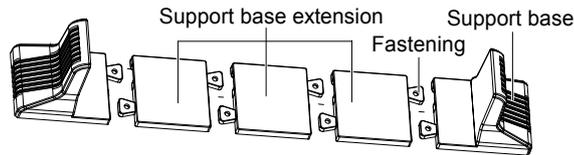

Figure 2-4 Connecting the support base with support base extension
2. If battery module installation is necessary, take out other support base extensions delivered with the battery module, and then assemble the support base extensions and the support bases through the fastenings, as shown in Figure 2-4.